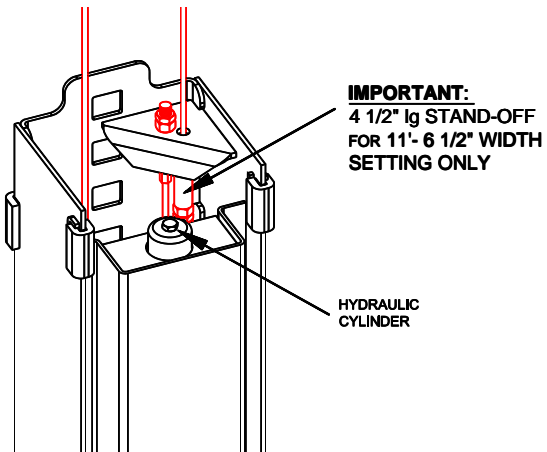

Fig 6a – Cable Assembly
18) Attach one end of synchronizing cable to carriage with the supplied nut and jam nut. See **Fig 6a & 6b** for proper attachment.
19) Route cable up and over sheave in overhead. Follow across to other sheave on opposite column. Route down through carriage to sheave in bottom of column. Route under sheave and up to cable attachment. Use **Fig 6a** for proper attachment.
Insure that the top of the hydraulic cylinder is out of the way but still retained in the opening of the top plate of the carriage as shown in Fig 6a.